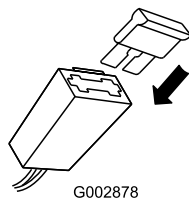

Figure 10
3. Install the fuse in the fuse holder (Figure 10).